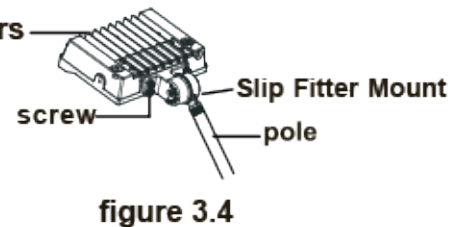

figure 3.4
Step 3: Loosen screws; Adjust fixture angles as per actual demands and tighten screws later; Angles of the fixture are adjustable (pass the bracket through mounting surface, secure it with screws, then connect the wires as per proper wiring requirements) .(figure 3.4)